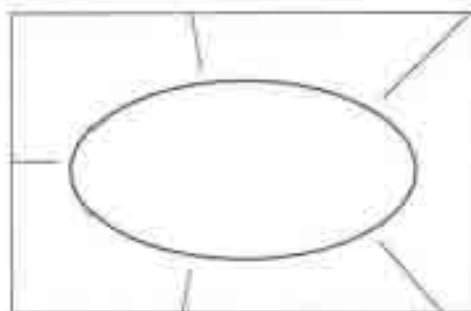

Figure 22
7. Carefully turn the glass over so that the score is on top. Use a Fletcher hand glass cutter to score a few radial lines from near the cut-out to the edge of the glass. Do not score closer than  $1/8"$  [3 mm] to the cut-out; make sure you run the cutter completely off the edge of the glass. See Figure 22.